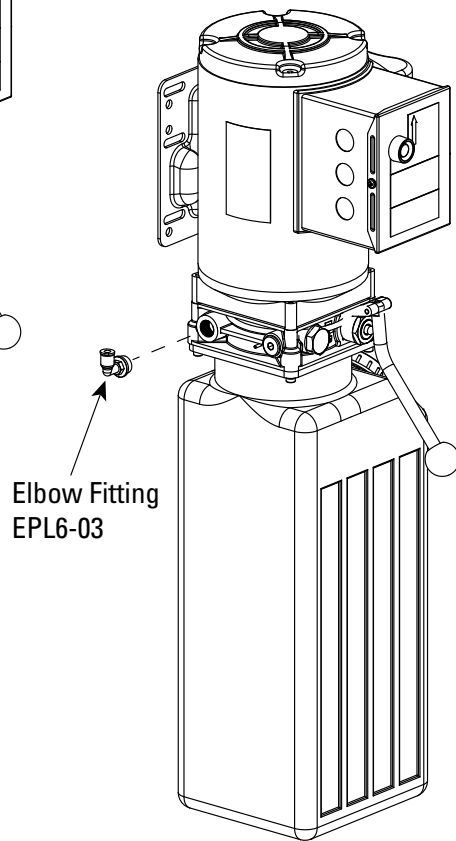

Fig. 2
B.) Install EPL6-03 3/8" NPT-1/4" 90° tube fitting, Fig. 2 below.